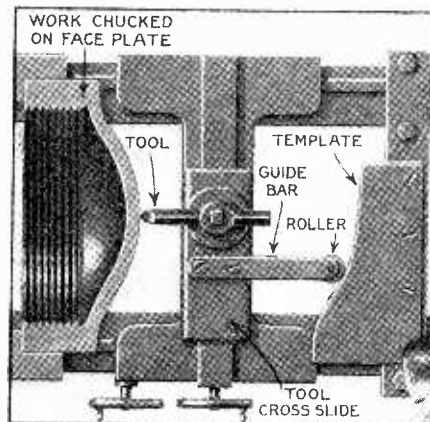
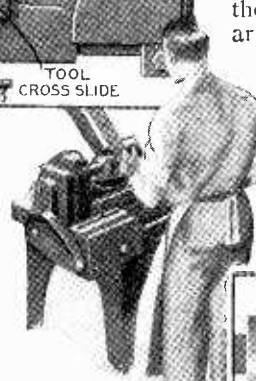

Fig. 2—A boring tool and a template are useful in turning a cylinder of large diameter.
Fig. 3—To the left is a complete set-up of guide strips for cutting conical surfaces.
through a hole bored in the lower board, as shown at B, Fig. 3, and the connecting wire from the box run through a hole in the top of Fig. 3 at A, and thence through Fig. 2 at A to the telephone.
The shelf upon which your telephone sets is $1\frac{1}{2}''$ inches thick and shaped as shown in Fig. 2. In the lower half of the niche a wood form (Fig. 3) is nailed. Soft pine is all right because it will not be visible. Its purpose is to hold the telephone box. Next nail the shelf, Fig. 2, on the top of form. (Fig. 3.)
The turning of a cylinder whose center section is of a larger diameter, and the addition of tapers and curves in the concealed portions is not an unusual job. Buffer cylinders, expansion chambers, or pumps sometimes require this type of work. Fig. 2 solves this problem for the lathe hand. Here a template is
Many jobs have conical surfaces and it is not possible to complete these accurately, using the cross and longitudinal feeds of the lathe alone. With a guide strip or forming plate you can develop a cone, accurate in angle and with a surface finish that will serve for high-class work. Fig. 3 illustrates the method of setting up a guide strip for cutting the cone. With this, either an inside or an outside cone may be cut, using lathes equipped with the plain rest.
The door now remains to be made and fitted. Details and sizes are given in Fig. 5. The stiles (B) and rails (C) should be of straight-grained, quartered oak and haunch tenoned together, as in the enlarged detail at Fig. 3. The center cross-rail is just tenoned (not haunched) in the usual way.